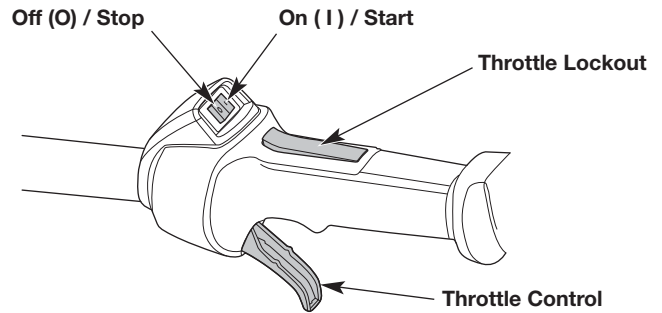
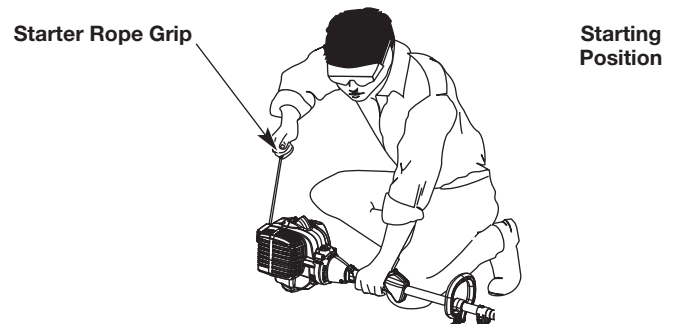

Fig. 8
Fig. 11
**WARNING:** Avoid accidentally starting the unit. To avoid serious injury, the operator and the unit must be in a stable position when pulling the starter rope (Fig. 11).
**NOTE:** There is no need to turn the unit on. The On/Off switch is in the ON (I) position at all times (Fig. 8).
4. Crouch in the starting position (Fig. 11).
5. **DO NOT** squeeze the throttle control (Fig. 8). Pull the starter rope with a controlled and steady motion until the unit starts (Fig. 11).
7. Press the throttle lockout and squeeze the throttle control (Fig. 8). Continue warming the engine for an additional 30 to 60 seconds. The unit may be used during this time.
2. Press and hold the On/Off switch in the OFF (O) position until the engine comes to a complete stop (Fig. 8).
6. **DO NOT** squeeze the throttle control (Fig. 8). Run the electric start accessory in intervals no longer than 2 seconds each until the unit starts.
9. Press the throttle lockout and squeeze the throttle control (Fig. 8). Continue warming the engine for an additional 30 to 60 seconds. The unit may be used during this time.